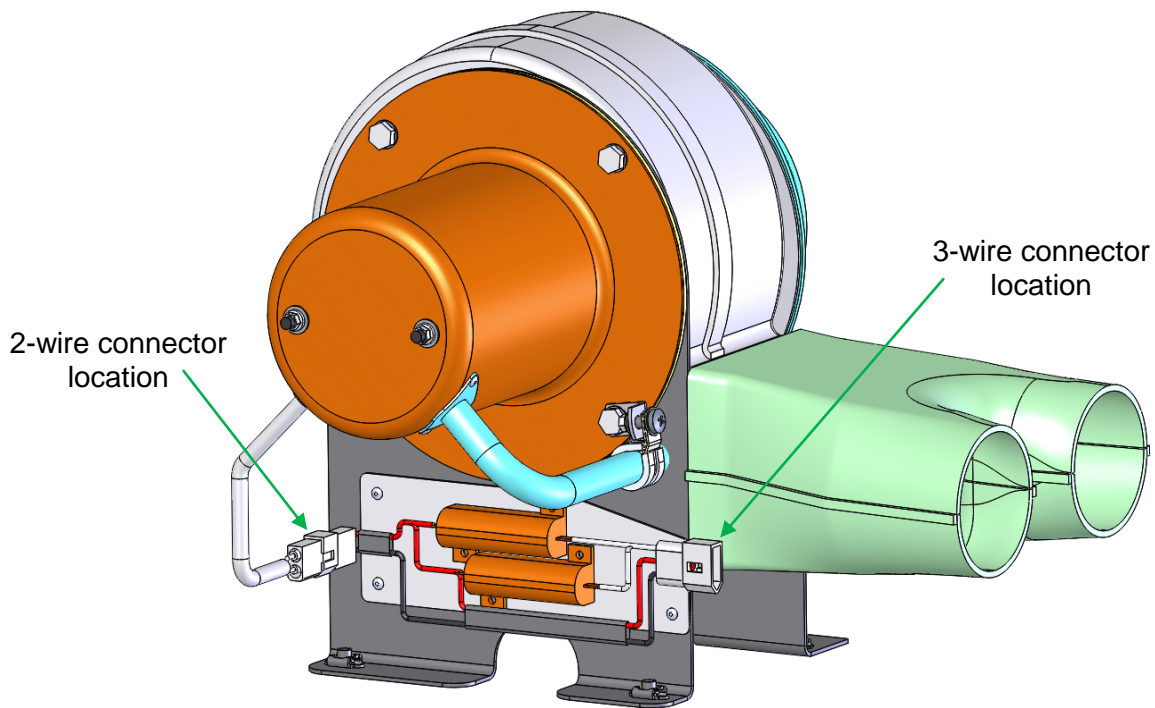
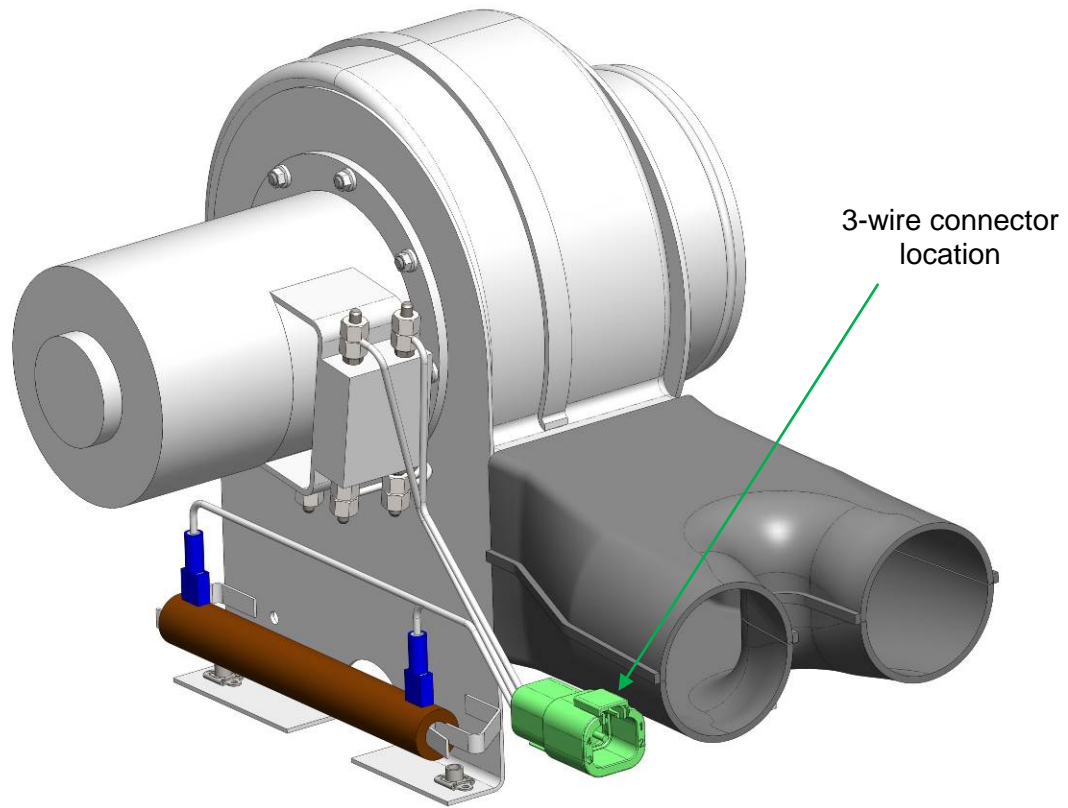
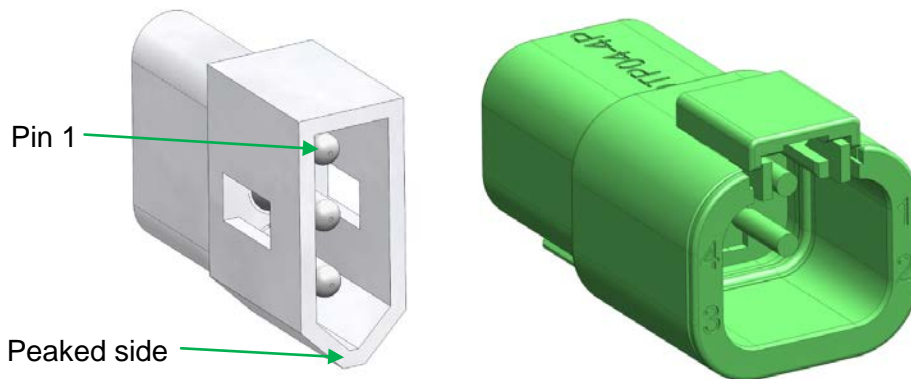
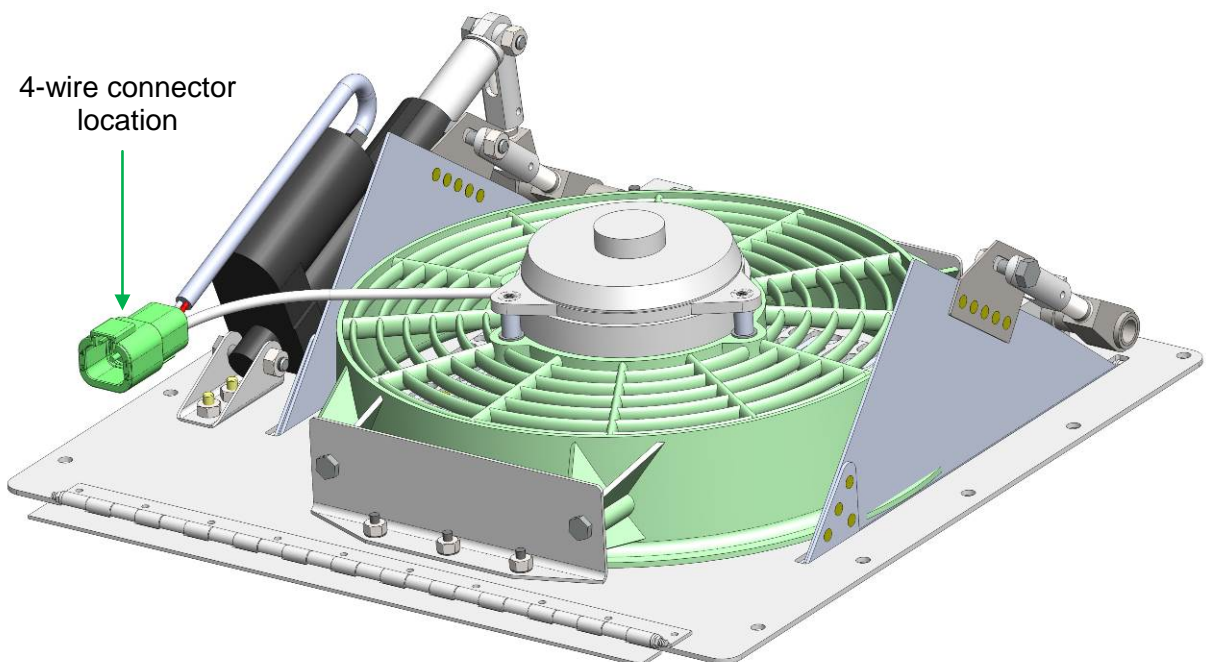

Figure 2: S-6102EC-3 Aft Evaporator Blower
Figure 3: S-6078EC-15 Aft Evaporator Blower
Figure 4: Connector Types
Figure 7: S-7060EC-1/-2/-3/-4 Condenser Blower
Determine if the installed aft evaporator blower is a S-6102EC-3 or a S-6078EC-15. Figure 2 and Figure 3 show the visual differences between the two types of aft evaporator blowers. Figure 2 depicts a S-6102EC-3, while Figure 3 depicts a S-6078EC-15. The aft evaporator blowers may also be identified with a placard showing the part number.
Determine if the aft evaporator blower has a Molex or Deutsch Connector. Figure 2 and Figure 3 identify the location of the connector on the aft evaporator blower. Figure 4 shows the visual differences between the two types of connectors. The left connector (white) depicts a 3-pin Molex connector, while the right connector (green) depicts a 4-pin Deutsch connector.
2. Follow the instructions in Section D.4 for replacing the following connectors (refer to Figure 2 for connector locations, Table 1 for pin orientation, and the Instructions for Continued Airworthiness for applicable wiring diagram):
2. Follow the instructions in Section D.4 for replacing the following connectors (refer to Figure 3 for connector location, Table 2 for pin orientation, and the Instructions for Continued Airworthiness for applicable wiring diagram):
Determine if the condenser blower has a Molex or Deutsch Connector. Figure 7 identifies the location of the connector on the condenser blower. Figure 4 shows the visual differences between the two types of connectors. The left connector (white) depicts a 3-pin Molex connector, while the right connector (green) depicts a 4-pin Deutsch connector.
2. Follow the instructions in Section D.4 for replacing the following connectors (refer to Figure 7 for connector locations, Table 3 for pin orientation, and the Instructions for Continued Airworthiness for applicable wiring diagram):